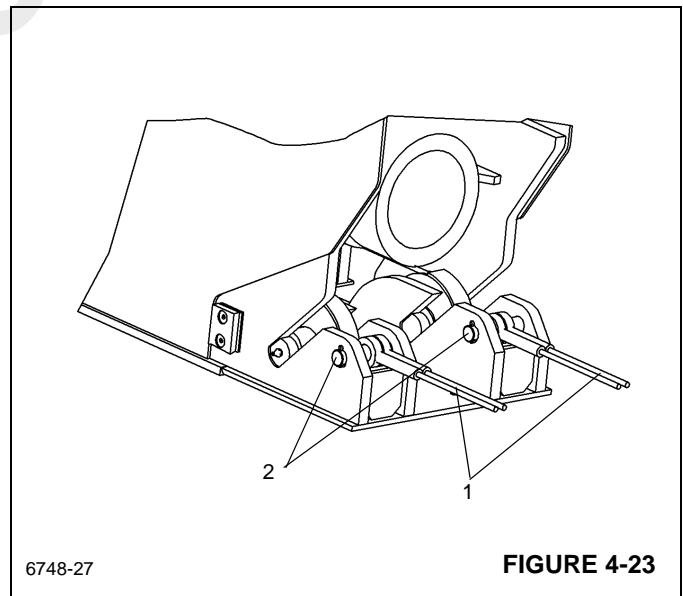

FIGURE 4-23
11. Continue to pull the assembly from the inner mid section until access to the rear of the outer mid is gained to disconnect the four retract cables (Figure 4-23, 1).
12. Remove the cotter pins and pins (Figure 4-23, 2) securing the four retract cables to the rear of the outer mid.